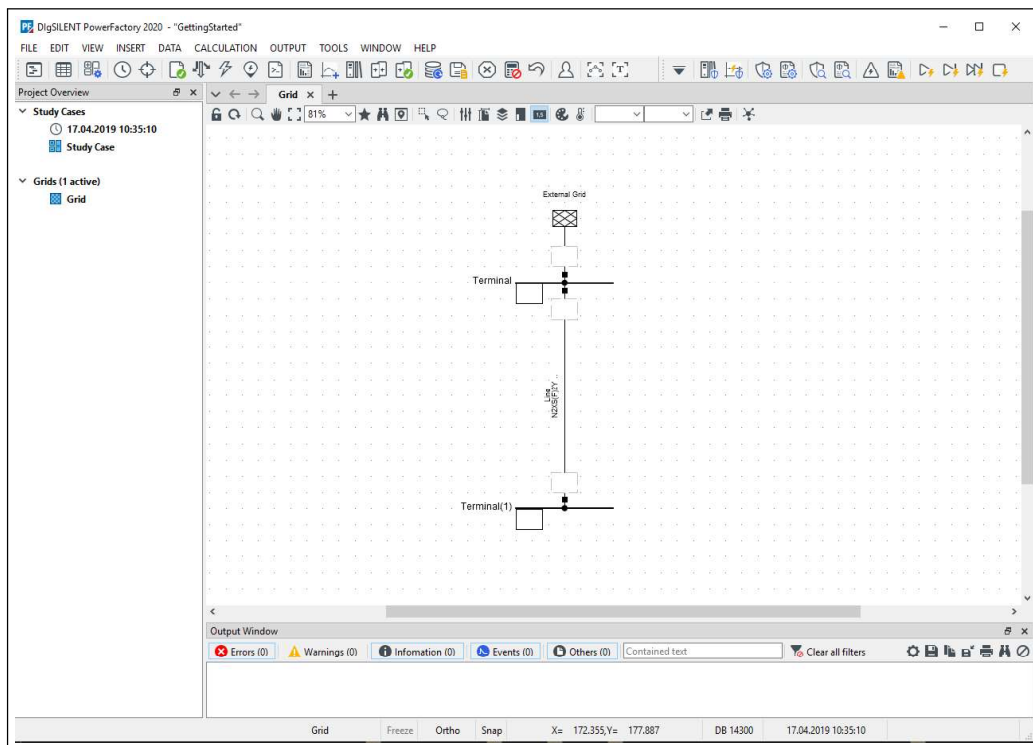

Figure 24.13.8: Grid
- draw a simple grid with two terminals (*ElmTerm*) connected by a line (*ElmLne*) as shown in Figure 24.13.8.